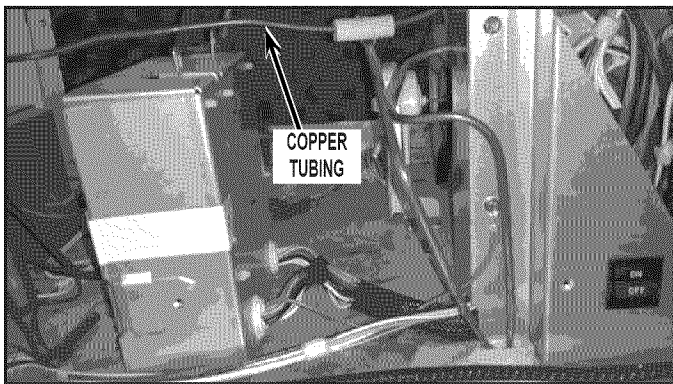

FIGURE 23
**IMPORTANT:** Move copper tubing away from new HV assembly to avoid noise. See *Figure 23*.